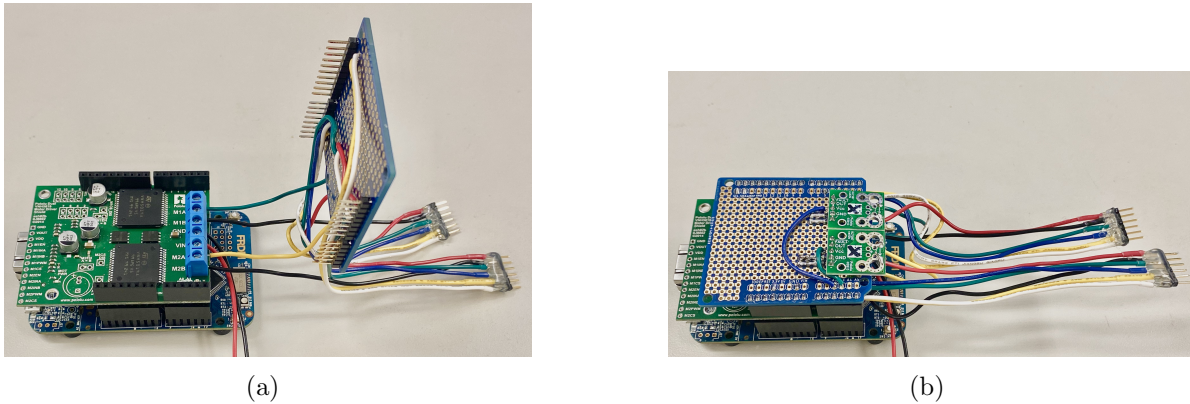

Figure 2: (a) Instruction of step 1(c): connect wires, (b) Instruction of step 1(d): slotting-in.
- (c) Connect the green, yellow and black wires from the pre-soldered prototype PCB to the motor drive ports of the shield. See Fig. 2 for detail instruction.